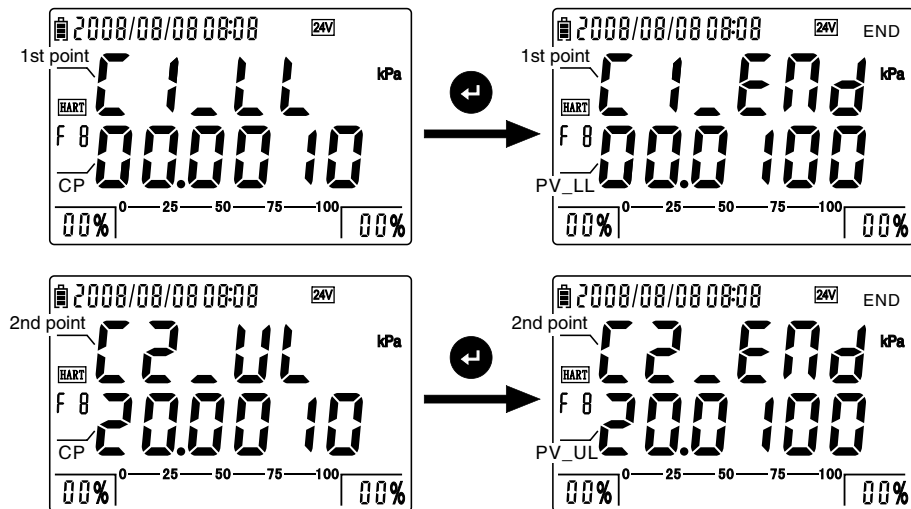

Figure 4-5-8-2: PV calibration process
to prioritize the calibration points. Then supply the pressure to the selected point. After CA value is steady, press  to finish the calibration. Once every point is calibrated, the first line shows the character [END], the second line displays the new lower/higher limit of PV range. (As figure 4-5-8-2)
c. After calibration, press  to the interface as figure 4-5-8-1, press  to function 9.